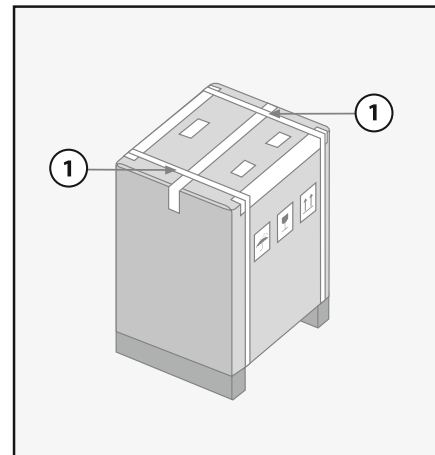

Figure 1.7: Cut plastic straps.
1. Cut the plastic straps using a pair of scissors (see Figure 1.7).